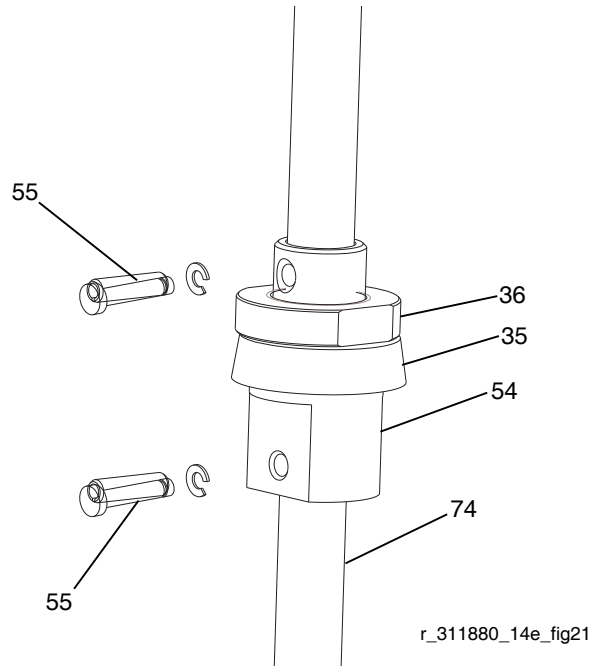

FIG. 21
10. Remove pins (55). See FIG. 21.